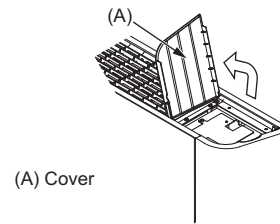

Fig.1
1. Open the right and left covers. (Fig.1)